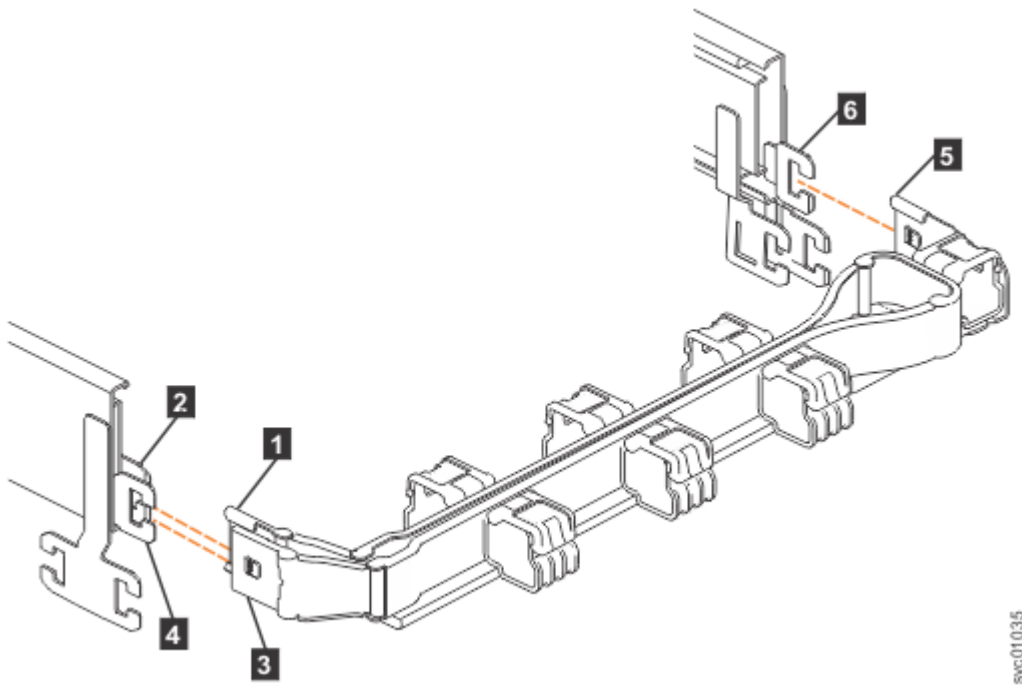
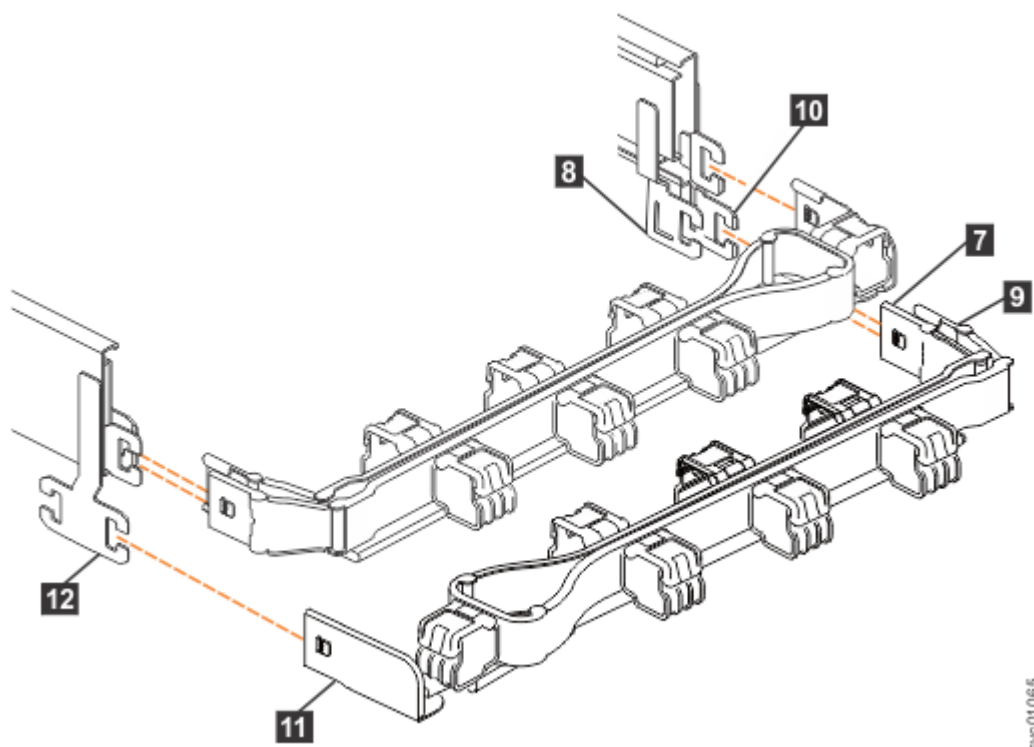

Figure 126. Connectors for the upper cable management arm
Figure 127. Components of the lower CMA assembly
The connectors of the CMA are installed on the rail hooks at the end of the support rails. Figure 126 on page 195 shows the connectors on the upper CMA assembly.
1. Press the latch on the connector base on the upper CMA assembly (**5** in Figure 126 on page 195).
2. Pull the connector to remove it from the connector base on the right support rail (**6** in Figure 126 on page 195).
3. Press the latch on the outer connector of the upper CMA assembly (**3** in Figure 126 on page 195).
4. Remove the outer connector from the inner member of the left support rail (**4** in Figure 126 on page 195).
5. Remove the inner connector of the upper CMA assembly (**1**) from the inner member of the left support rail (**2**), as shown in Figure 126 on page 195.
Note: The procedure for removing the lower CMA assembly is the same as the procedure to remove the upper CMA assembly. However, the connector locations are reversed. For example, the connector base of the upper CMA (**5** in Figure 126 on page 195) connects to the right rail. The connector base of the lower CMA (**11** in Figure 127 on page 196) attaches to the left rail.
6. Remove the connector base on the lower CMA assembly (11) from the connector on the left support rail (12), as Figure 127 on page 196.
7. Remove the inner connector of the lower CMA assembly (9) from the outer member of the right support rail (10), as shown in Figure 127 on page 196.
8. Remove the outer connector of the lower CMA assembly (7) from the inner member of the right support rail (8), as shown in Figure 127 on page 196.